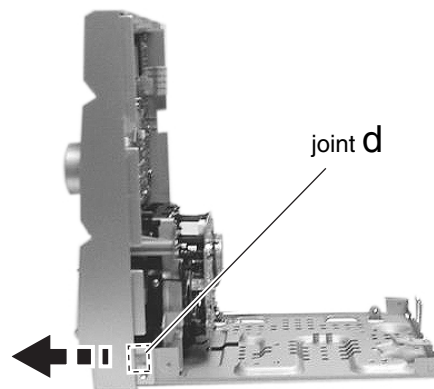

Fig. 19
■ Removing the front panel assembly (See Fig. 19 & 20)